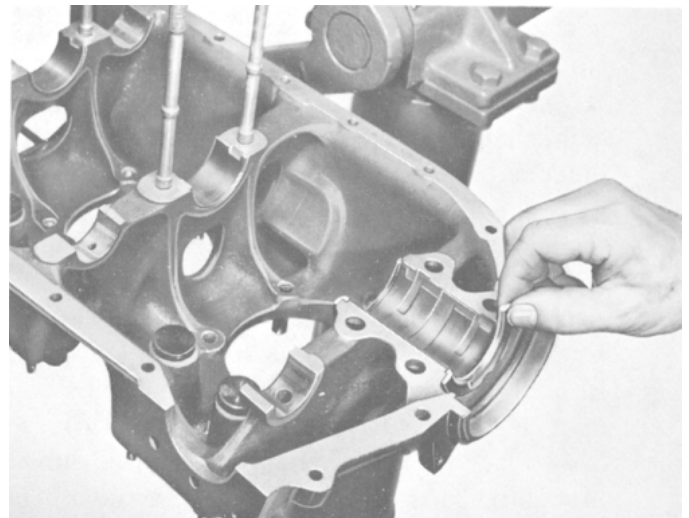

Figure 31. Installing Crankshaft Bearing and Old Type Thrust Washer
- h. If the crankcase is the older type, equipped with dowels in the front main bearing boss to retain the thrust washers, obtain new washers of the proper type, and spread a very thin film of soft grease on their shouldered sides, so that they will adhere to the ends of the boss. place each washer in position, as shown in Figure 31. Four identical notched washers are required.